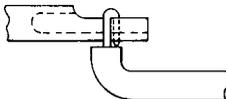

FIGURE 13.
- c. *Wire Wrapped Around Terminal* (Figure 13): When the connection is made by wrapping the wire around the terminal, solder the turn nearest the insulation for at least one-half the circumference of the terminal.